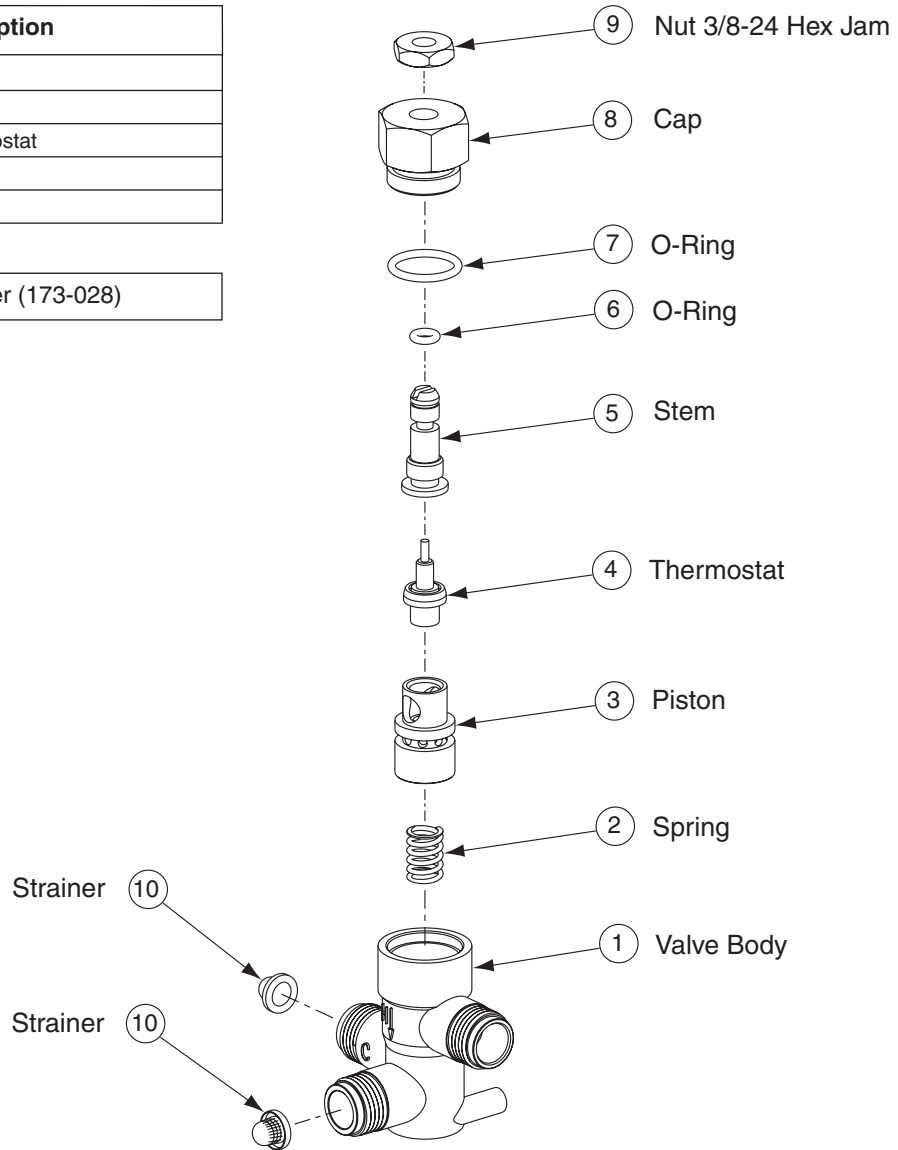

Figure 10
1. Remove the valve's cap and thermostat (see Figure 10 on Page 20).